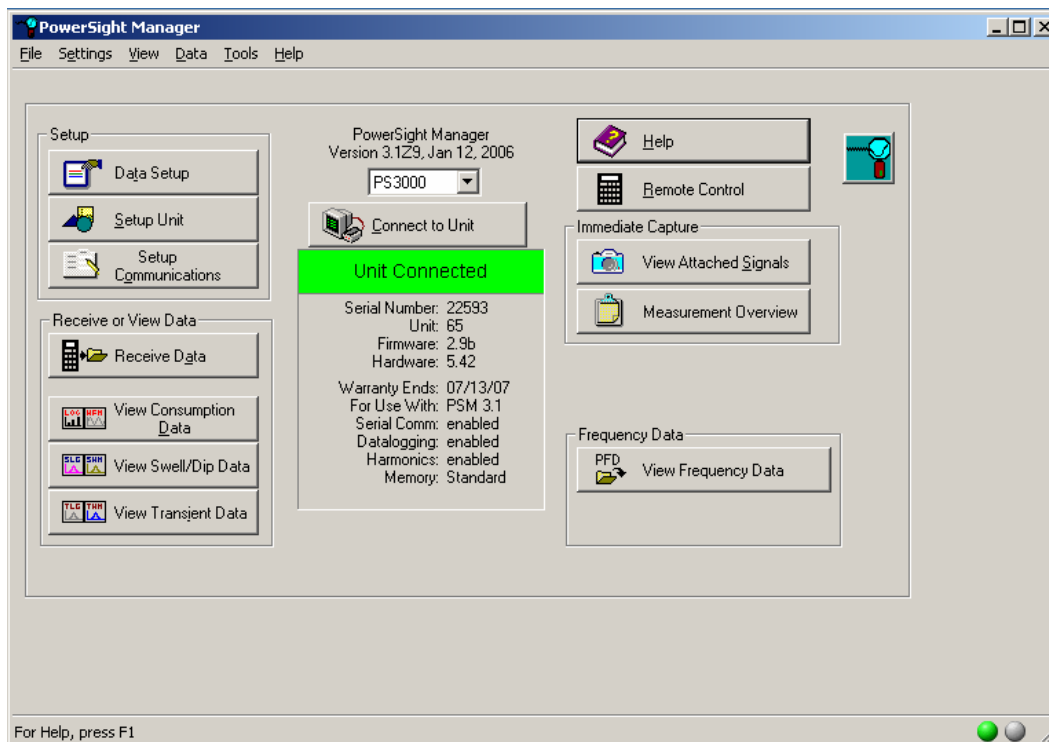

Figure 3: Logger software main screen.
1. Click the *Data Setup* button. (figure 3)